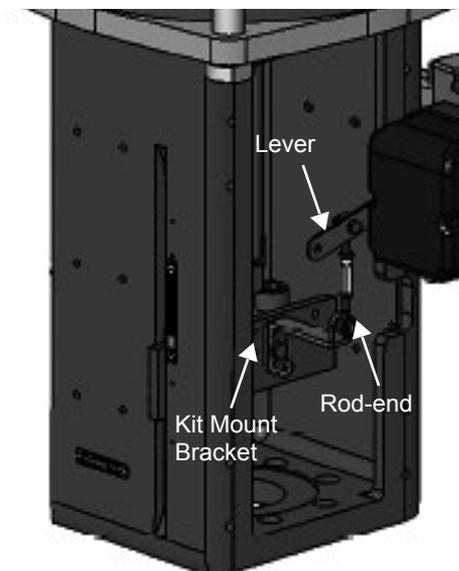

Figure 27 - 85/86 Valve
2. Install the mounting assembly to the yoke (Figure 27) using helical spring washer 5/16, flat washer 5/16 and hex screw 5/16-18x44.5 [1.75] LG.